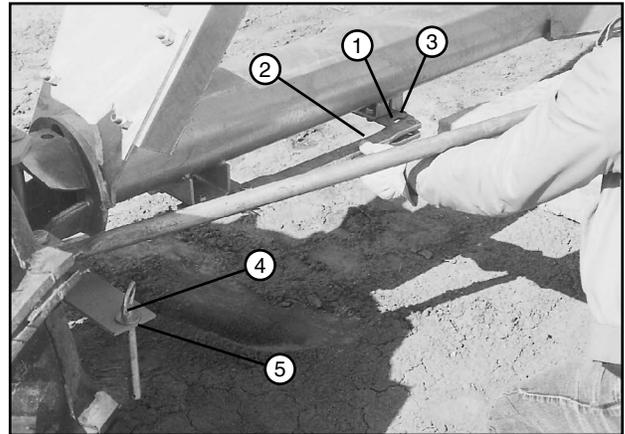

Figure 51-2 1. Carrier Spring 2. Tow Link 3. Tow Link Carrier 4. Torque Pin 5. Steering Arm
19. Lift each carrier spring and release the tow link bar from the tow link carrier. Remove torque pin from each gearbox steering arm. See Figure 51-2.